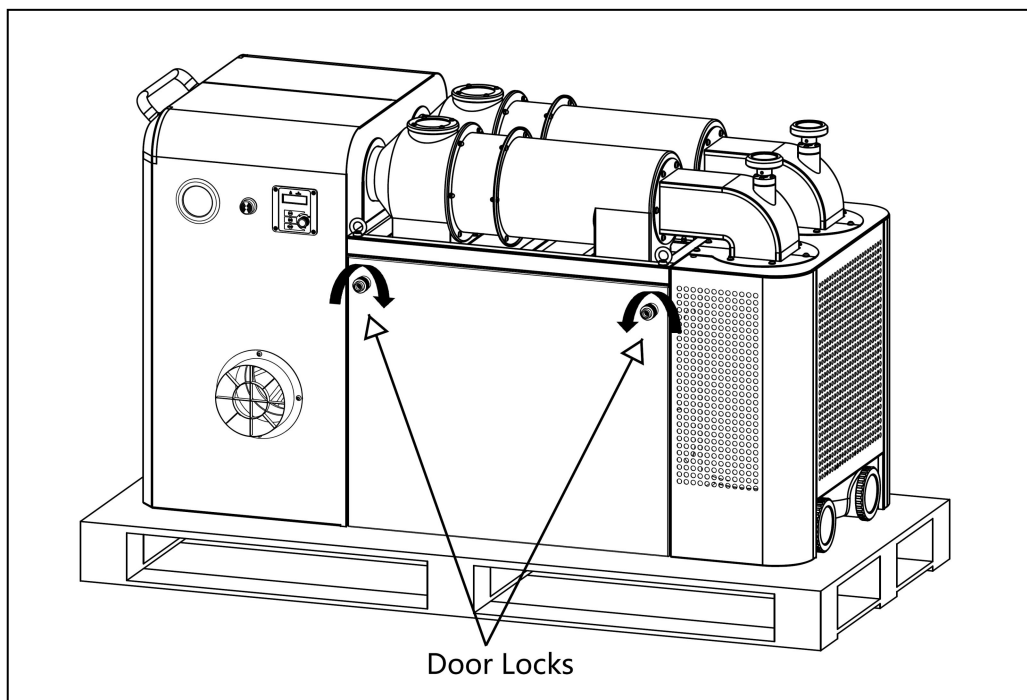
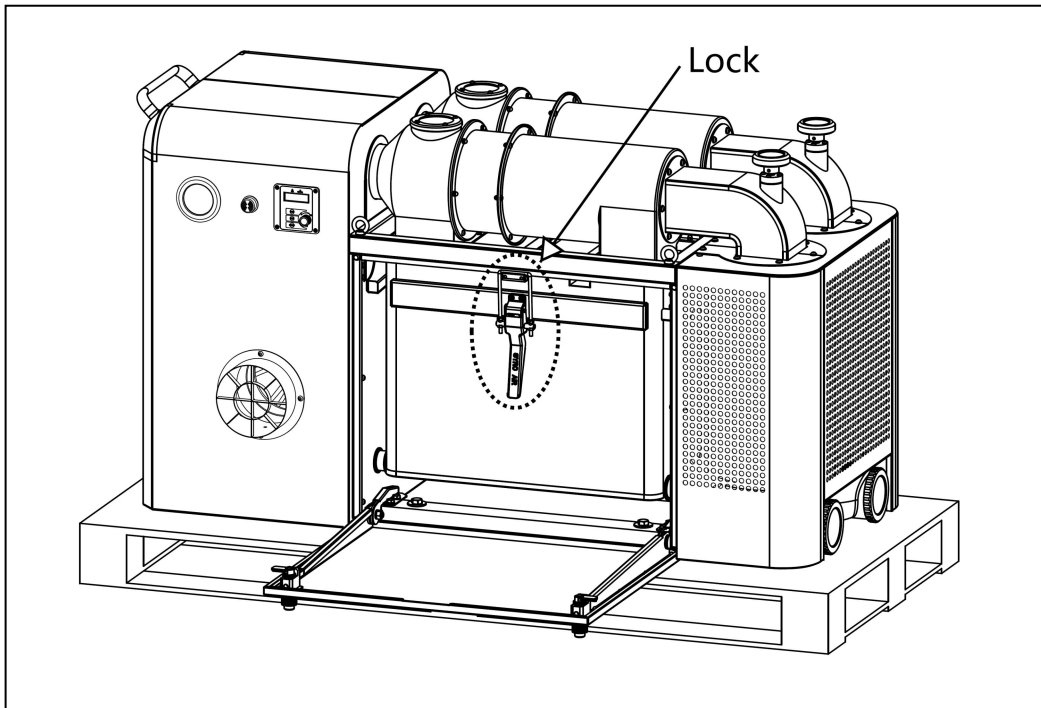

Fig.6
Fig.7
1. Remove the package box, keep the base unit on the pallet. As **Fig.6**
- Rotating the knobs as arrow indicated (**see Fig.6**) to open the door. Then release the dust bin (**see Fig.7**), you can slide the dust bin out.
Rotate the knobs as the arrow indicates (**see Fig.6**) to open the door. Release the dust bin (**see Fig.7**), you can slide the dust bin out.